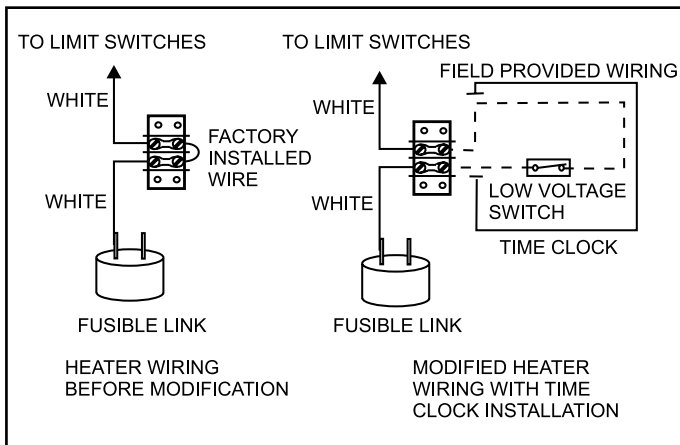

Figure 16. Typical time clock wiring.
If a time clock is provided to control the pool filter pump, it should have a separate low-voltage (Fireman's) switch for the heater. Route the heater's 24 VAC control circuit through this switch as shown in Figures 16 and 17. To do this, remove the "jumper" from the terminal block in the heater control compartment. Connect two (2) wires to this terminal block and route them to the Fireman's switch at the time clock. Provide wiring of at least 18 gauge with insulation at least 3/64" thick and having a temperature rating of at least 90°C.